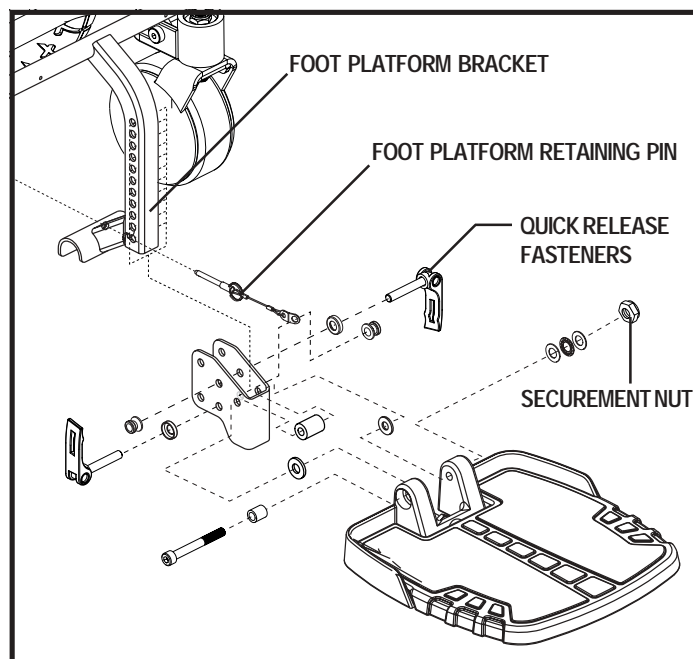
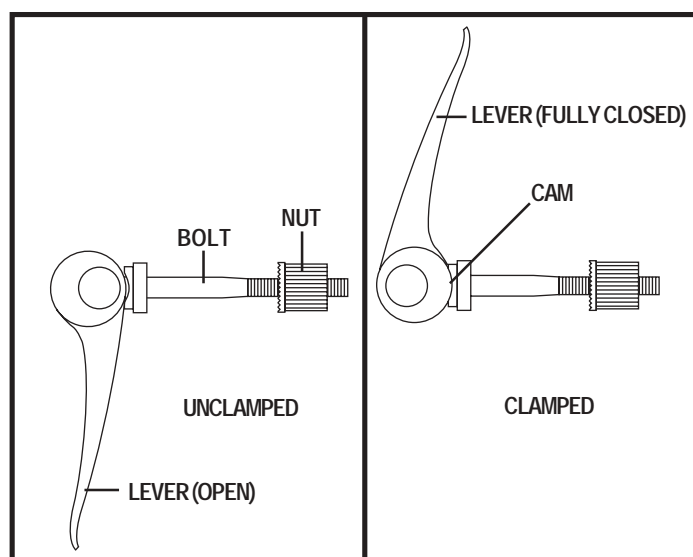

Figure 17. Foot Platform Adjustment
Figure 18. Quick Release Fastener Operation
1. Remove the quick release fasteners from the foot platform bracket. See figure 17.
**Quick Release Fasteners:** The foot platform is attached to the power base with two quick release fasteners. See figure 17. Each quick release fastener consists of a bolt, a lever, and a nut. See figure 18. The lever has a cam on the end that allows it to clamp into place. The quick release fastener has two states: clamped and unclamped. When the lever is open, the quick release fastener is unclamped. When the lever is closed, the quick release fastener is clamped.
You can adjust the angle of the foot platform with a hex key. See figure 17.